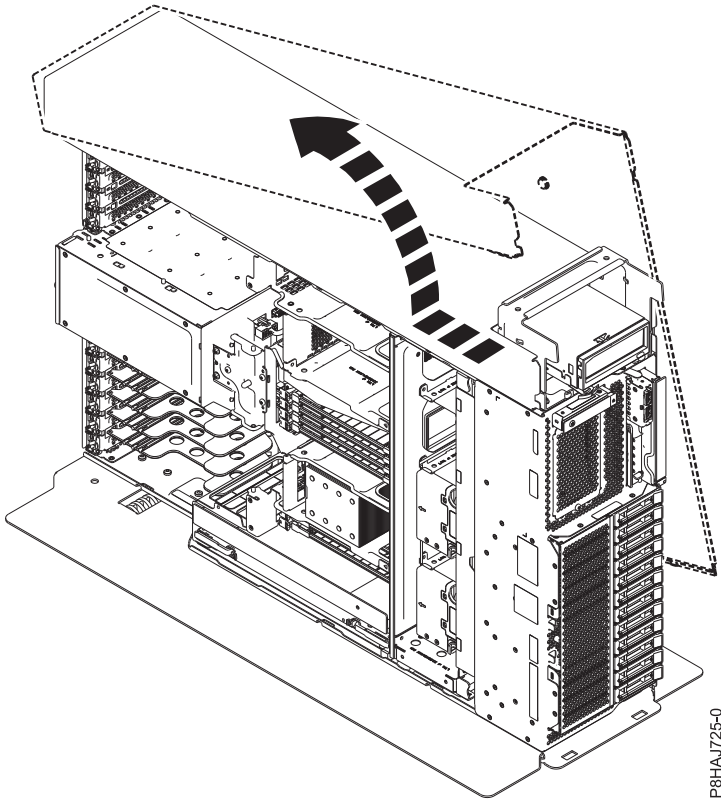

Figure 45. Removing the 8286-41A side cover
5. Slide the side cover off of the system in the direction that is shown in Figure 45 on page 59.